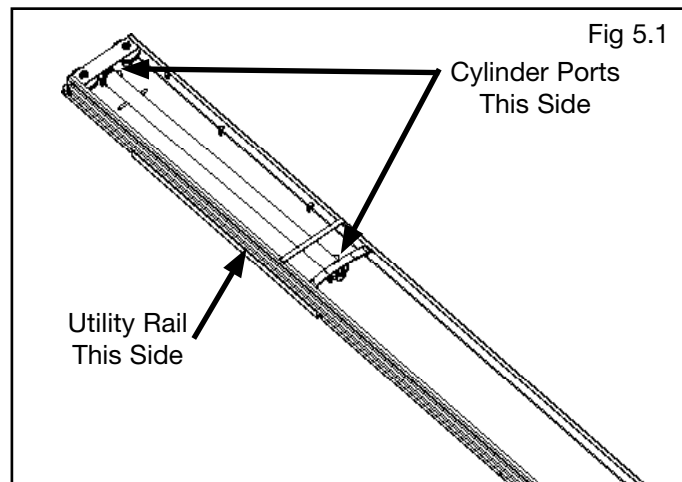

Fig 5.1
1. Locate the POWER SIDE RAMP easily identified by the cylinder and sheaves assembled in the ramp or the sheave roller mounting plates welded on the underside. The Power Side Ramp will be positioned on the side of the lift where the Power Unit is installed. (See Fig. 5.1)
2. Check that the cylinder ports are facing away from the utility rail side of the Power Side Ramp. (See Fig 5.1)